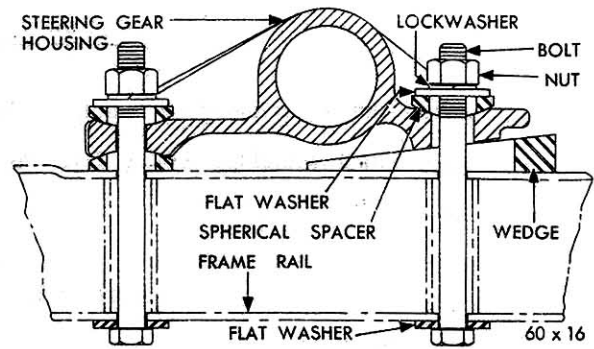

Fig. 18 - Steering Gear Mounting (Cross Section)
- (10) Turn the steering wheel retaining nut to exert pressure on the installing sleeve and upper retainer ring and bearing, this action will press the bearing down onto the knurled section of the steering shaft and against the lower retainer ring and flatten the upper retainer ring so it can enter the groove in the steering shaft. Be sure the retainer ring is firmly seated in the steering shaft groove. This retainer ring places the upper column tube in the proper relation with the worm shaft coupling pin. Remove the steering wheel nut, washer and sleeve tool.
- (11) Install the steering wheel and steering wheel nut, tighten the nut to 24 foot-pounds torque.
- (12) Install the horn blowing switch, horn ring, the insulators and attaching screws. Connect the horn wire.
- (13) Compress and turn the horn button 1/4 turn clockwise to lock the horn button on the retainer.
- (14) Position the floor plate seal on the floor panel and install the attaching screws.
- (15) Raise the vehicle.
- (16) Tighten the front upper and front lower gear housing to the frame attaching bolts to 50-foot-pounds torque.
- (17) Install a wedge over the rear bolt (Fig. 18) between the housing and the frame so that the tapered surfaces match; tap the wedge lightly but firmly into place and tighten the rear mounting bolt to 50 foot-pounds torque.
- (18) With the steering gear centered in its travel and the steering wheel and front wheels in the straight-ahead position, install the steering gear arm, washer and nut. Tighten nut to 120 foot-pounds torque.
- (19) Install the steering center link, nut and cotter pin.
- (20) Lower the vehicle.
- (21) Carefully enter the left bank intake manifold and carburetor assembly into position.
- (22) Connect the manifold equalizer tube at the right hand manifold.
- (23) Install the manifold spacer, washers, spark plug cableholder and manifold attaching bolts and tighten securely.
- (24) Connect the pressure and return hoses at the steering gear.
- (25) Connect the hose at the crankcase vent.
- (26) Connect the throttle linkage at the throttle bell crank.